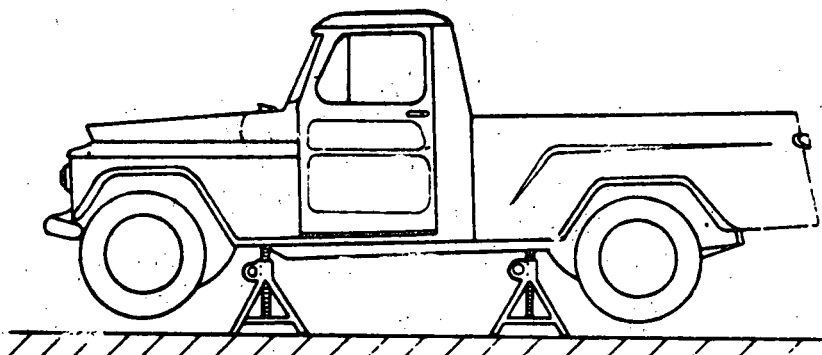

Fig. 2
d) Lower the vehicle slowly until it rests on the axle-stand (or dumb jack) (fig.2) and remove the jack.